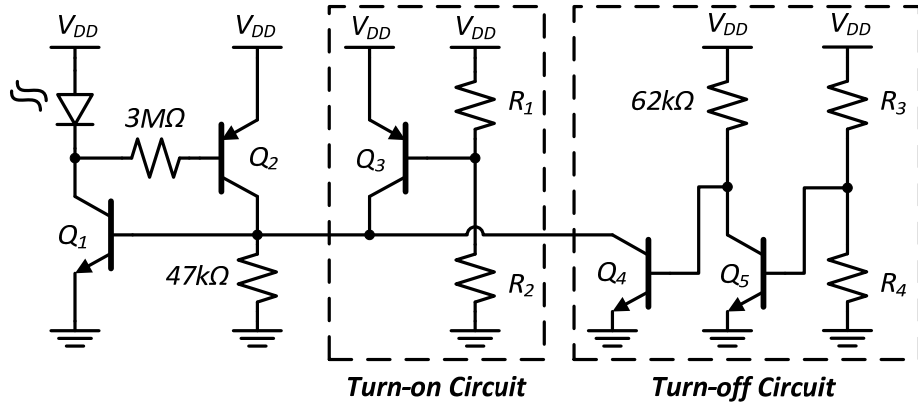
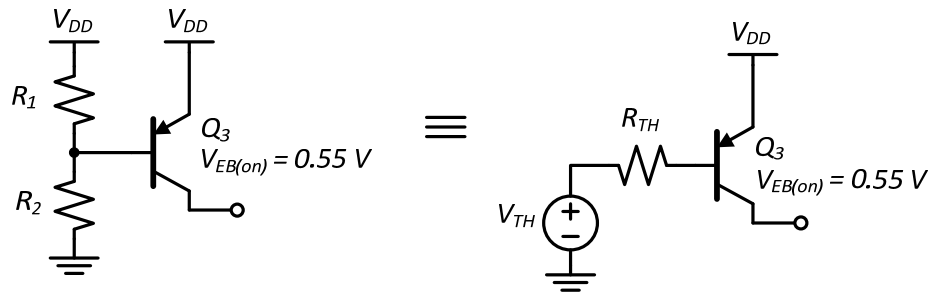
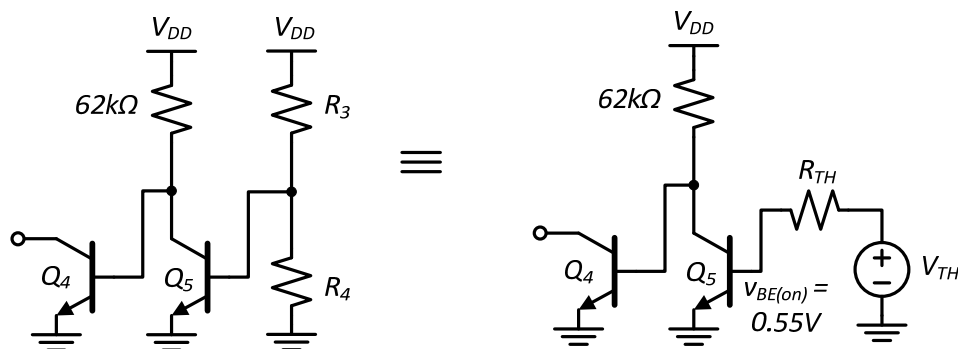

Figure 8. Complete switching circuit.
Figure 9. Turn-on threshold detection circuit.
Figure 10. Turn-off threshold detection circuit.
- P3.2** The complete circuit is shown in Figure 8. The bi-stable LED circuit is forced into the “on” mode by driving current onto the $47k\Omega$ resistor with the PNP transistor Q_3 . The circuit shown in Figure 9 will be used to detect the turn-on voltage threshold (Table 1). The turn-on voltage of the E-B junction of the PNP is $v_{EB,ON} = 0.55V$. Derive expressions for R_{TH} and V_{TH} in terms of V_{DD} , R_1 , and R_2 . Determine values for R_1 and R_2 that will turn on the PNP when V_{DD} reaches $1.7V$. Assume $\beta_F = 200$, and the PNP is in the forward active region. Take into account the limit on power consumption given in Table 2 when choosing resistor values.
- P3.3** The bi-stable LED circuit is forced into the “off” mode by using Q_4 to pull down the base voltage of Q_1 in Figure 8. The circuit shown in Figure 10 will be used to detect when V_{DD} reaches the turn-off voltage threshold (given in Table 2). When V_{DD} drops below the turn-off threshold voltage, Q_5 should go from FAR to the cutoff region. The $62k\Omega$ resistor then supplies base current to turn Q_4 on in FAR. This forces the LED circuit to the off mode by pulling v_{BE} of Q_1 to 0. The turn-on voltage for Q_5 is $v_{BE,ON} = 0.55V$ and $\beta_F = 300$.
- Build the circuit shown in Figure 8, using resistor values found in the previous parts. Use the *lab3_led* component found in the *EECS311Lib* library for the LED. For the NPN devices, use the *AnalogLib* > *nnp* component. Give each *nnp* a model name of *2n3904_typical*. For the PNP devices, use the *AnalogLib* > *pnnp* component. Give each *pnnp* a model name of *2n3906_typical*. Do not add a voltage source for V_{DD} yet.
- L3.1** Build the circuit shown in Figure 8 using the component values found in the prelab. For now, wire all V_{DD} pins together and ground pins together, but do not connect them to any supply or to your rectifier circuit from week 1.